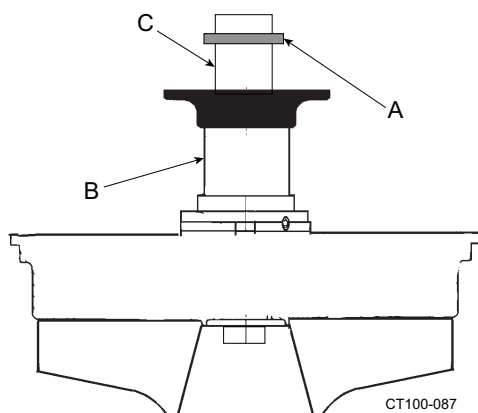

Figure 42 - Locations of Shims
23. If needed, change this clearance by adding or removing shims. Shims (Figure 42, item A) are added on the drive shaft (Figure 42, item C) behind the impeller shaft (Figure 42, item B).